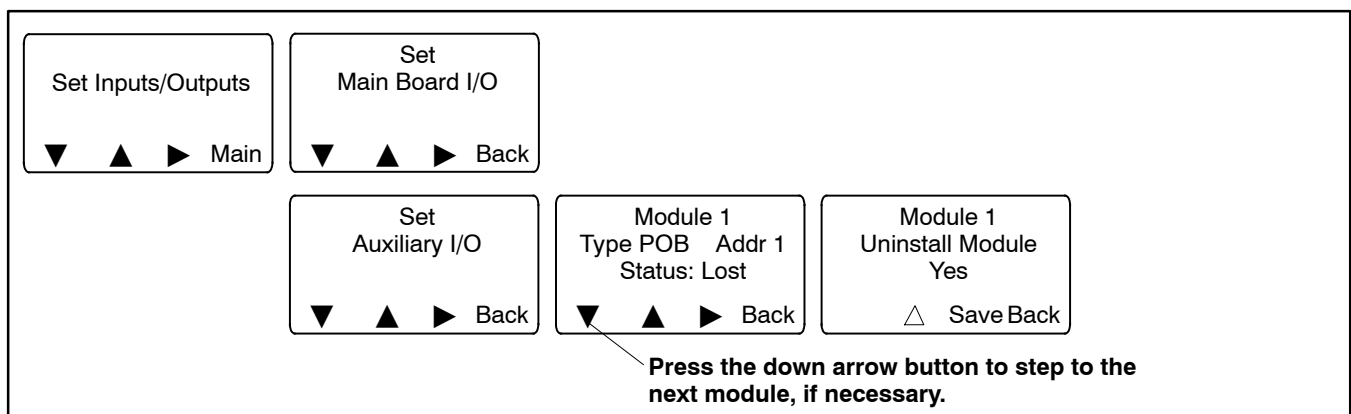

Figure 1-25 Uninstall Module
5. Navigate to the Set Auxiliary I/O menu. See Figure 1-25. Press the right arrow button to see the status of module 1. Press the down arrow to step to the next module, if necessary, until the menu shows Status: Lost.
10. Navigate to the Set Auxiliary I/O menu to check the status and settings for the new module. See Figure 1-25. Press the right arrow button to see the status of module 1. Press the down arrow to step to the next module, if necessary,